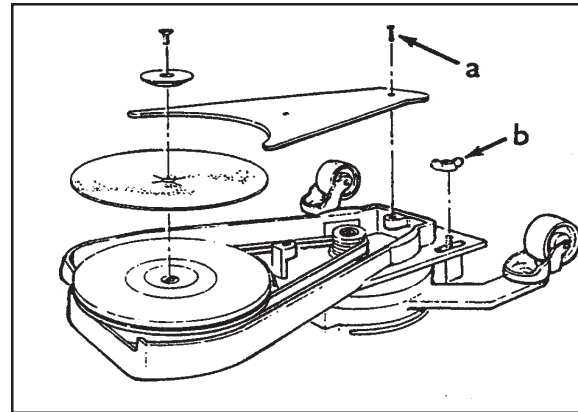
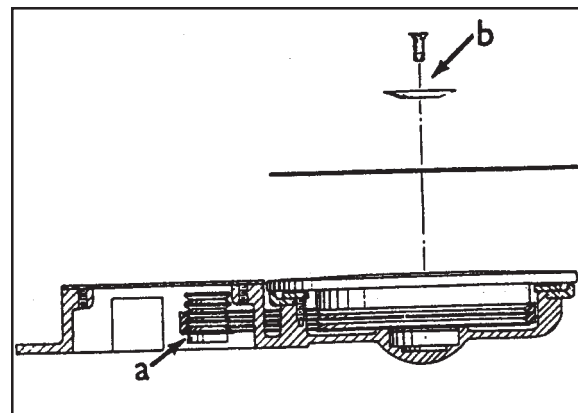

Figure 3
Figure 4
2. Remove belt guard (figure 3-a). Position extension over motor and start thumb screw (figure 3-b). **Position drive belt in lower most set of grooves on motor pulley as shown in figure 4-a (for the kick-toe extension with 7" dia. pad.)** The upper most set of grooves are reserved for use with all other attachments. Tension drive belt, then tighten thumb screws. Rotate pad driver to inspect position of drive belt in motor pulley and pad driver belt grooves.
4. Remove screw and abrasive retainer. Center abrasive on pad and secure with abrasive retainer and screw. (Figure 4-b)